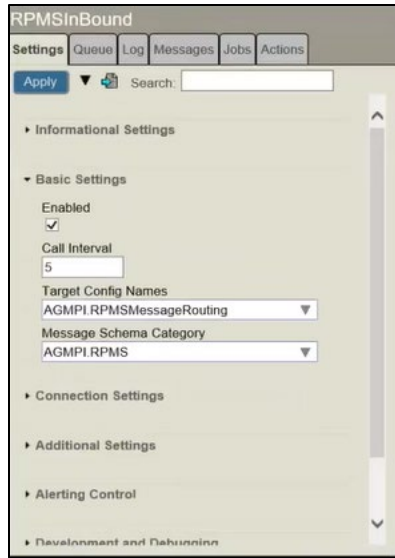

Figure 4-3: RPMSInBound production configuration
- b. Click on **RPMSEInBound**. The dialogue box at the right opens (Figure 4-3).